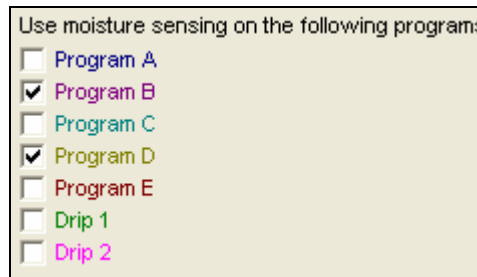

Figure 16.4.39D
- Place a check in each program box that you want to use moisture sensors on (Figure 16.4.39D).